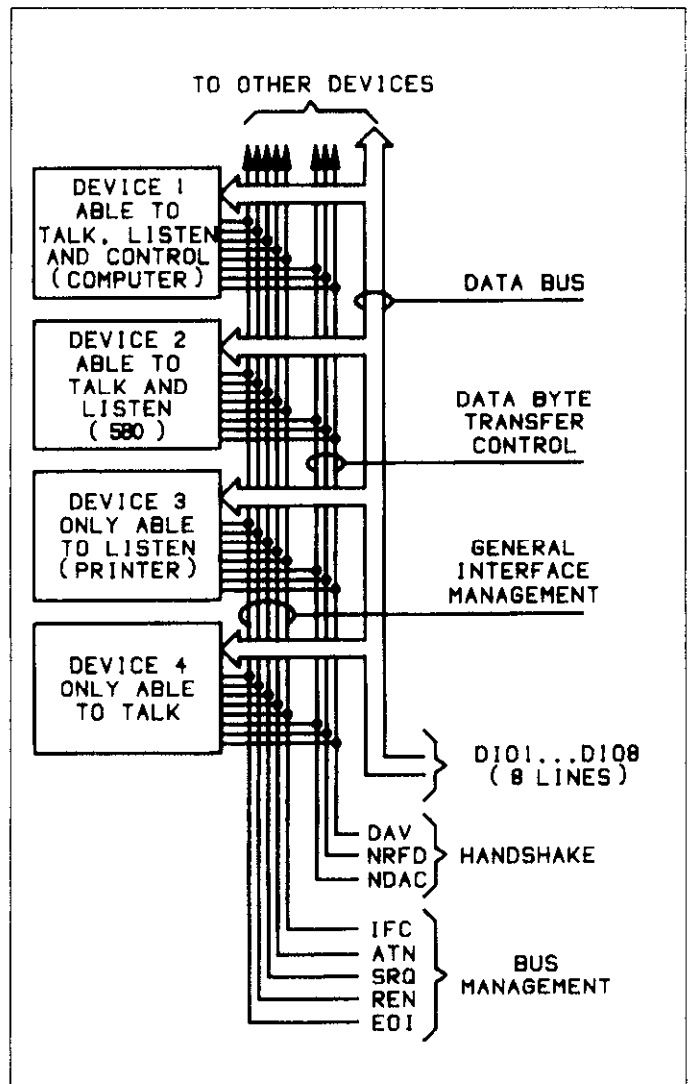

Figure 2-1. IEEE-488 Bus Configuration
A typical bus configuration for controlled operation is shown in Figure 2-1. A typical system has one controller and one or more instruments that receive commands and which usually yield data.
Three types of signal lines are found on the IEEE-488 bus lines: data lines, which handle bus information, and handshake and bus management lines, which ensure proper data transfer and bus operation. Each of these bus lines is "active low" so that approximately zero (0) volts is a logic one (1). The following paragraphs describe the purpose of these lines, which are illustrated in Figure 2-1.